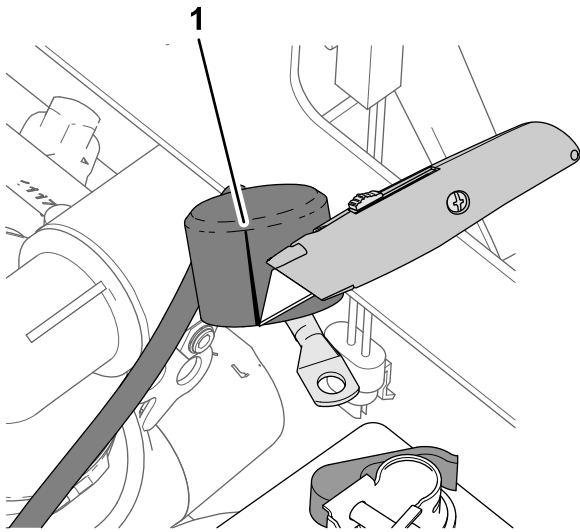

Figure 241
1. Slit the insulator cover of the positive battery cable to the starter as shown in Figure 241.